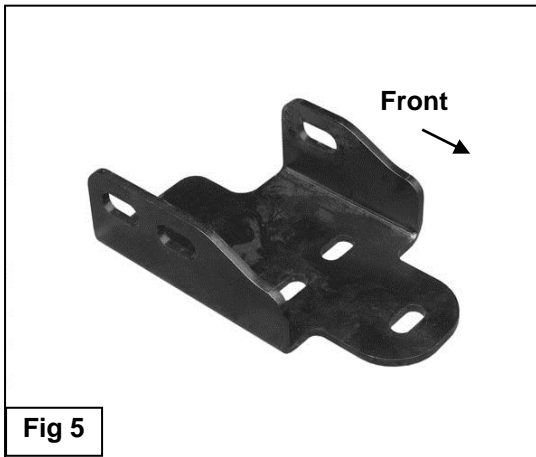

Fig 5
2. Select (1) Frame Bracket, (Figure 5). Insert the Bracket through the opening in the plastic bumper. Line up the (3) holes in the Bracket with the holes in the end of the frame channel, (Figure 4).